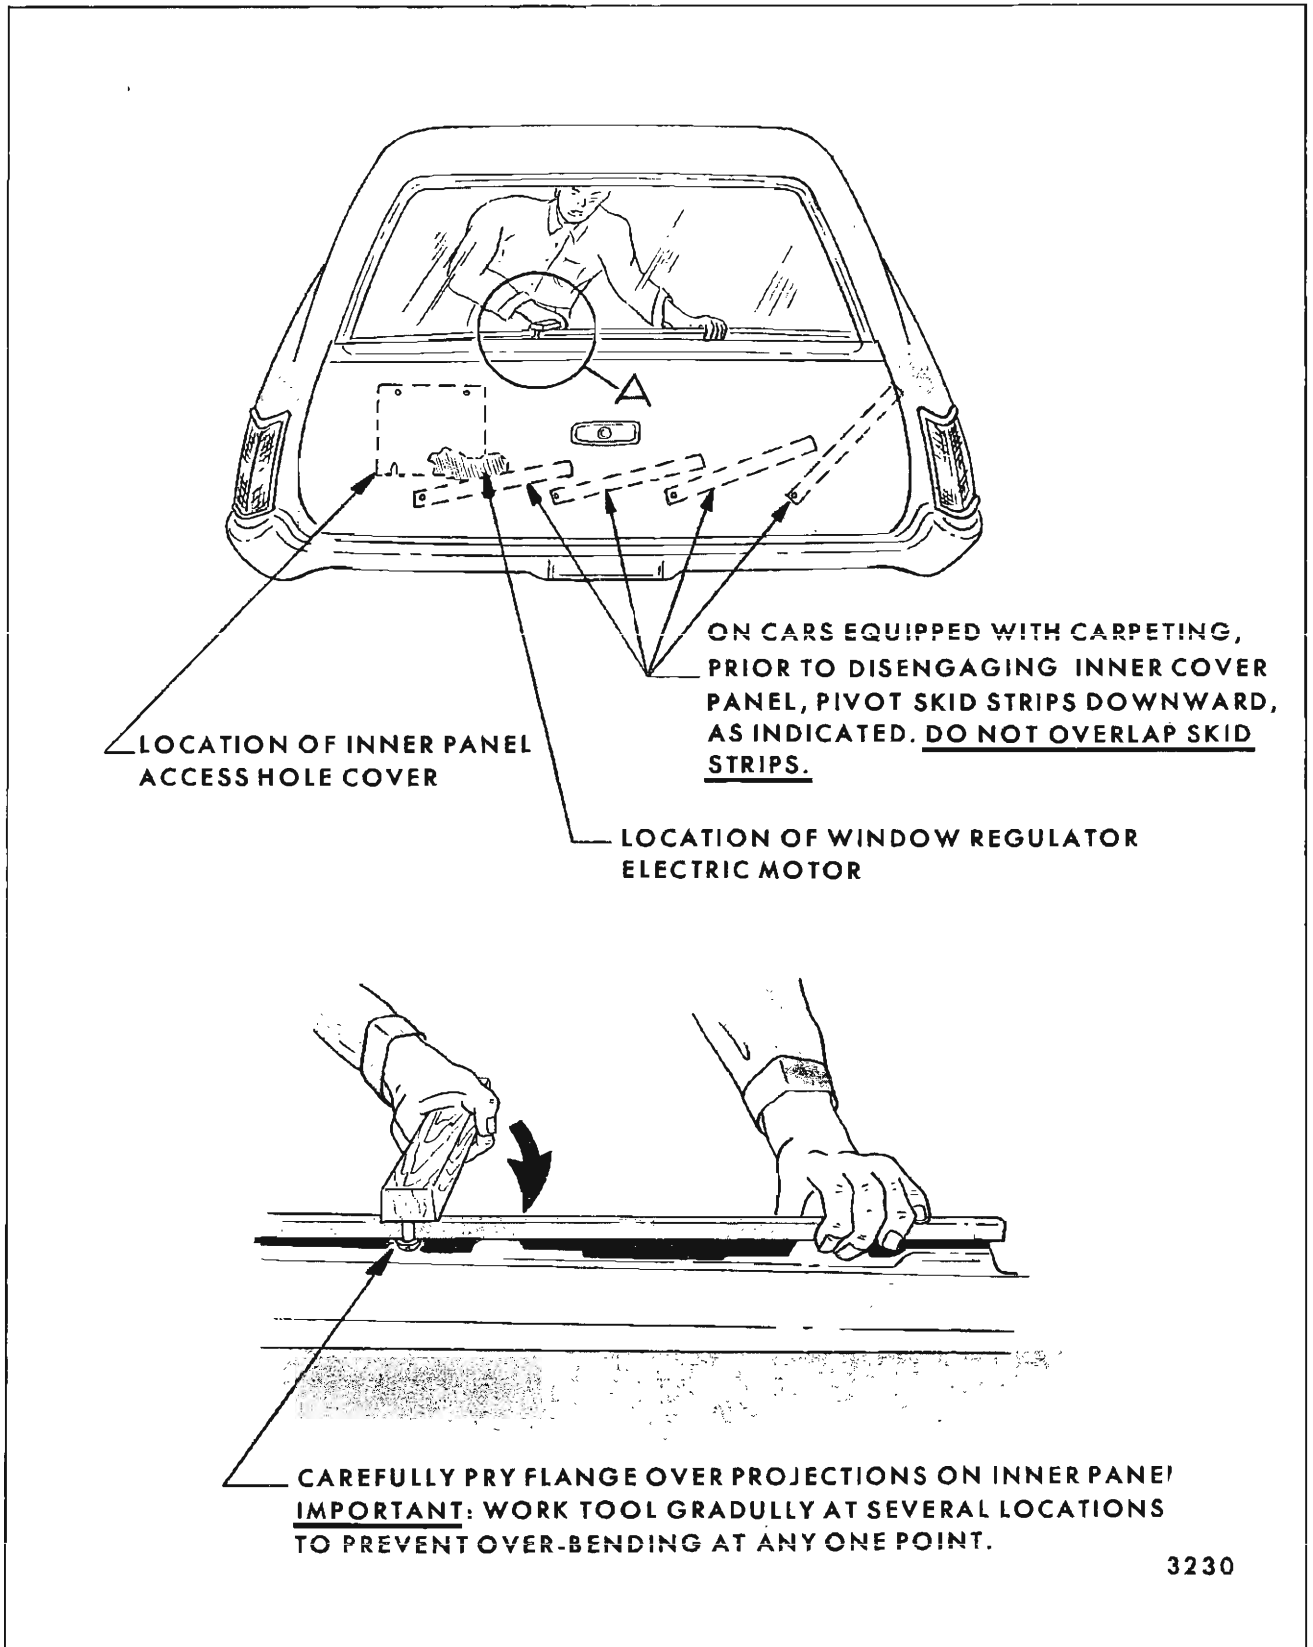

Fig. 9-35—Inner Panel Cover Removal
**IMPORTANT:** On bodies equipped with carpeting and tail gate skid strips, carefully pivot skid strips downward towards right (passenger) side of car, as indicated by dotted lines in Figure 9-35. Do not overlap skid strips.
4. Using "pry tool", as shown in Figure 9-35, start at right side (passenger's side) of tail gate inner cover panel and carefully pry upper